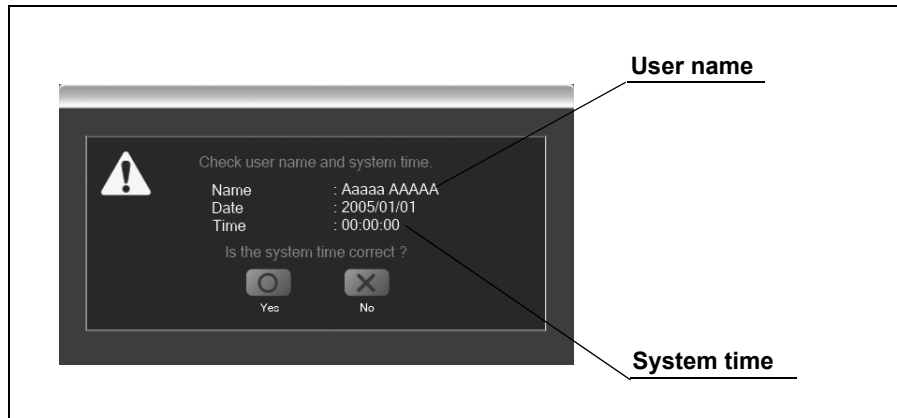

Figure 4.5
4. If the user ID and password are correct, a confirmation screen for the user name and system time is displayed. Confirm the user name and system time (see Figure 4.5).